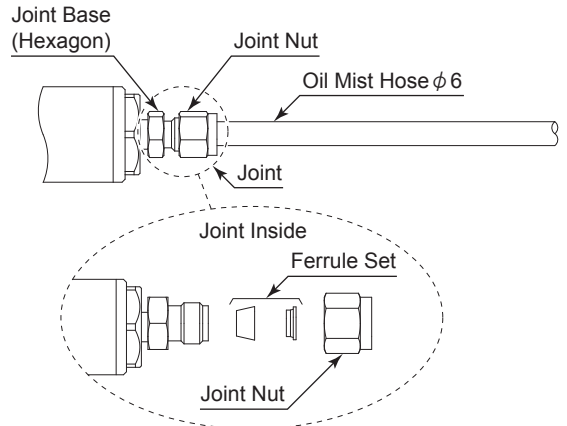

Fig. 17
- (3) Secure an adjustable wrench or 14mm open-end wrench (Wrenches not included) to the base (hexagon part) of the Joint, then tighten the Joint Nut securely by using an adjustable wrench or 14mm open-end wrench (Fig .17).
- (4) Check that the Oil Mist Hose $\phi 6$ cannot be removed from the Oil Supply Port by lightly pulling the Oil Mist Hose $\phi 6$.
* If the Oil Mist Hose $\phi 6$ comes off from the Oil Supply Port, secure the hose by performing procedure (2) - (3) again.